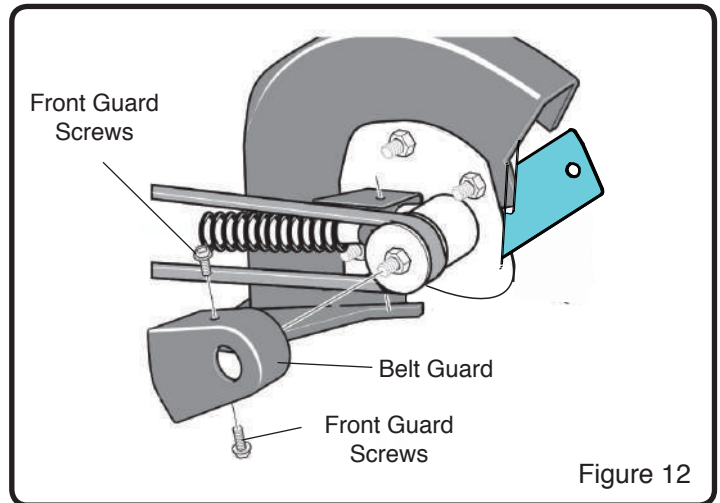

Figure 12
4. Remove the two Front Guard Screws and the Belt Guard. (See Figure 12)